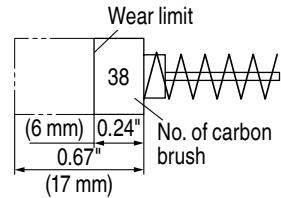

Fig. 17
3. Inspecting the carbon brushes (Fig. 17)
Use HITACHI carbon brush No. 38 indicated in Fig. 17.